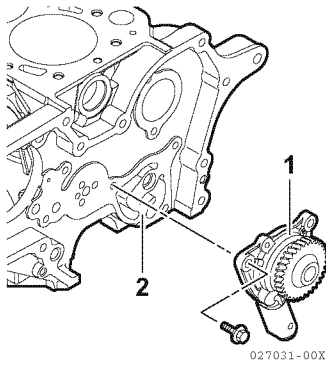

Figure 9-4
3. Remove the lubricating oil pump assembly mounting bolts. Remove the lubricating oil pump assembly (**Figure 9-4, (1)**) from the gear case flange (**Figure 9-4, (2)**).